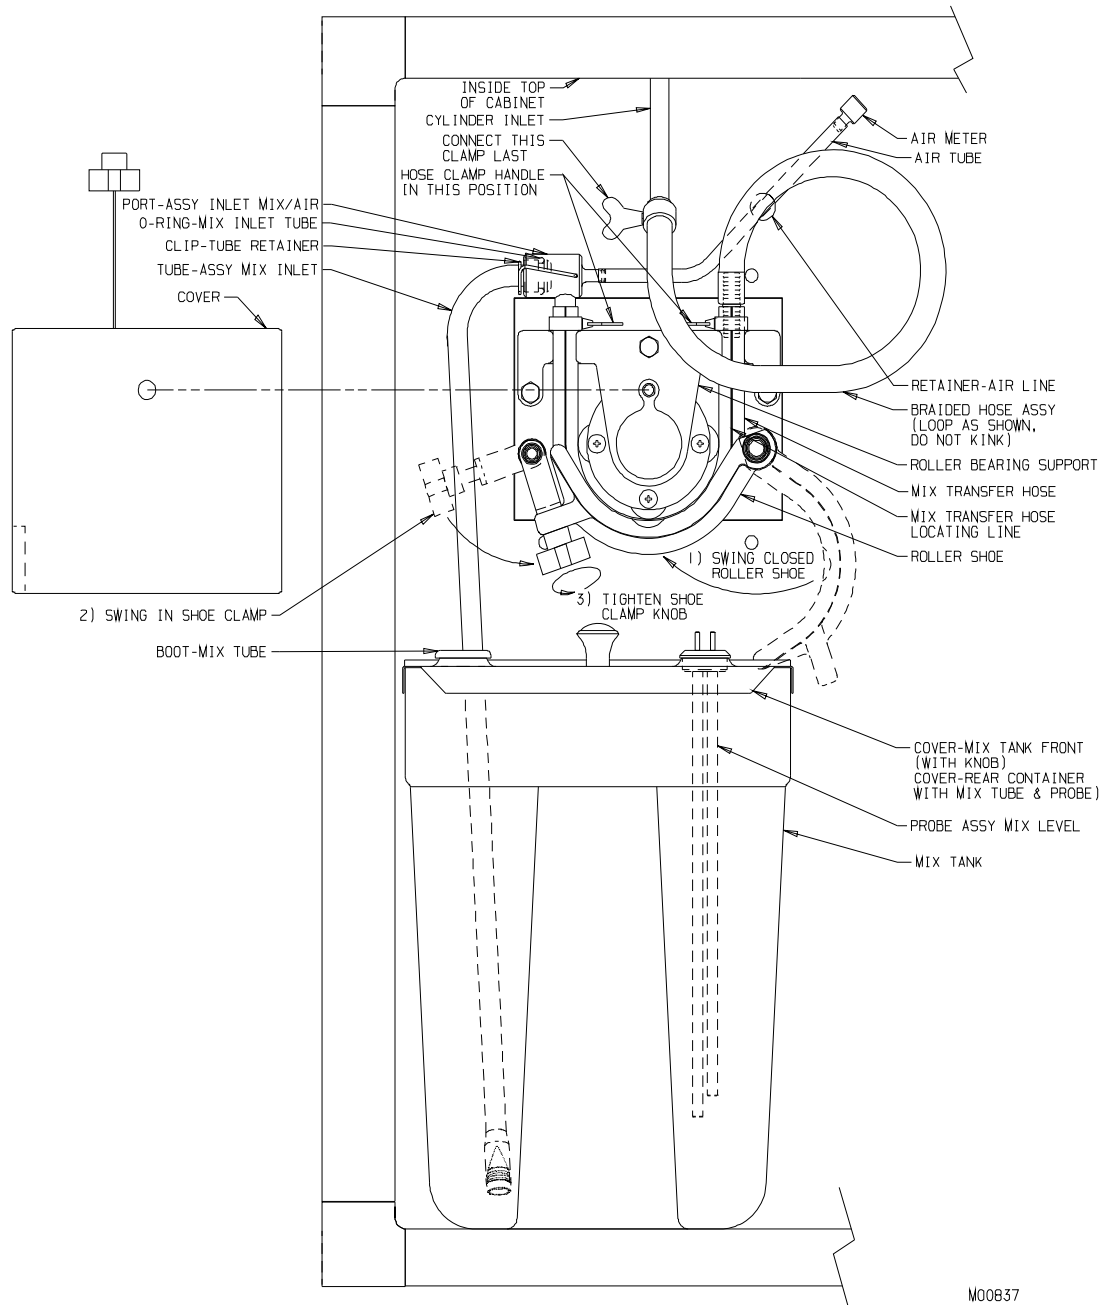

Figure 7-8 MTS
24. Insert the MTS cover over stud, as shown in figure 7-8. Hose clamps should be exposed. Tighten cover knob. Hand tighten only.